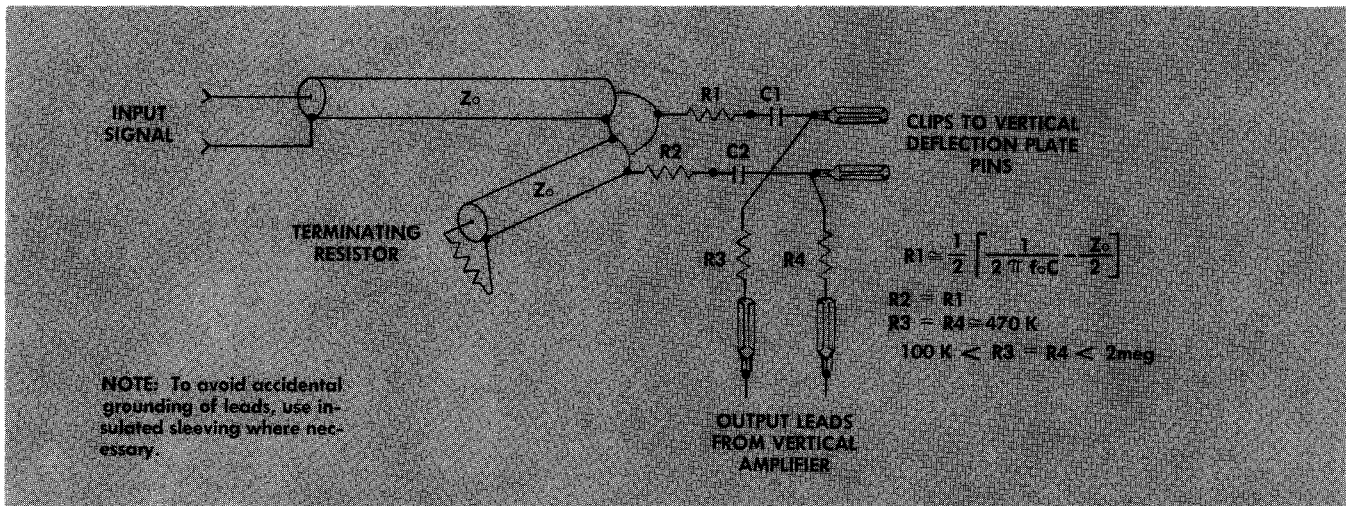

Fig. 3-8. Detailed method of ac-coupling the signal directly to the vertical deflection plates.
A typical circuit for ac-coupling directly to the vertical deflection plates is shown in Fig. 3-8. This circuit permits the internal vertical amplifier of the oscilloscope to be bypassed, but still allows the normal dc operating and positioning voltages to be applied to the deflection plates from the internal vertical amplifier. However, when using this circuit, you must use a high-quality external delay line
Only approximate values for two of the parts are given. The values of these and all other parts depend upon the crt, cable impedance, and lead lengths. Later on, some setups employing a 540-Series Oscilloscope are illustrated and described to show how optimum results were obtained by modifying the circuit shown in Fig. 3-8 to suit the specific application.
To find the resonant frequency ( $f_o$ ) of the lead inductance and the deflection plate capacitance (C) for use in the equation shown in Fig. 3-8, use the method that follows. Turn off the oscilloscope power and disconnect the vertical amplifier output leads to the crt. Cut a wire loop which equals the total length of C1, C2, R1, R2, R3, R4. Substitute the wire loop for these components between the vertical deflection plate pins. Bring a grid-dip meter near the loop and measure the resonant frequency.
The value of R1 is found by solving the equation in Fig. 3-8. Make R2 the same value as R1.